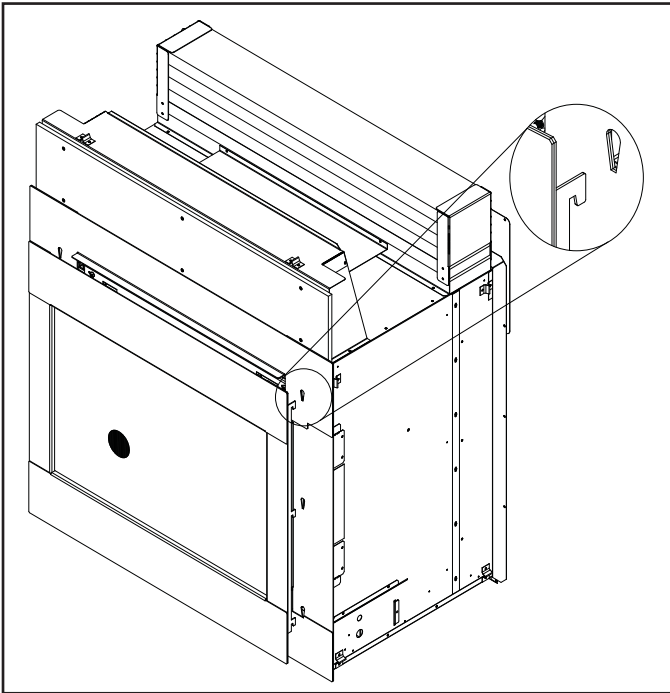

Figure 3. Outer Door Attachment
- 3 Attach the outer door to the inner door, mount the four J-Hooks on the slots. See Figure 3.